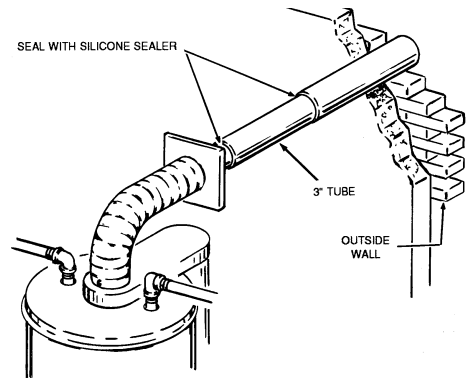

FIGURE 10
6. Extend the 3 inch tube assembly to its maximum installed length, 20-3/4 inches. A minimum of 1-1/4" overlap is required at all 3" vent pipe joints. Place the larger main section through the hole in the external wall to the outside. Place the inner sliding section fully onto the 3 inch elbow. Apply high temperature silicone sealant as shown in fig. 10.